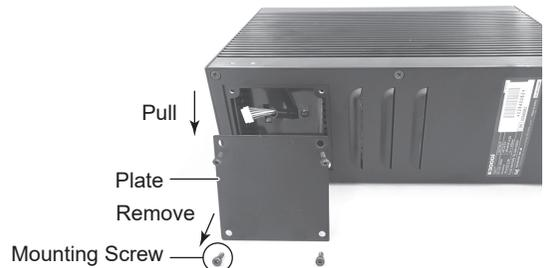

Fig. 38
- (2) Remove the screw from the Plate and pull the Plate from the CONTROLLER (Fig. 38).